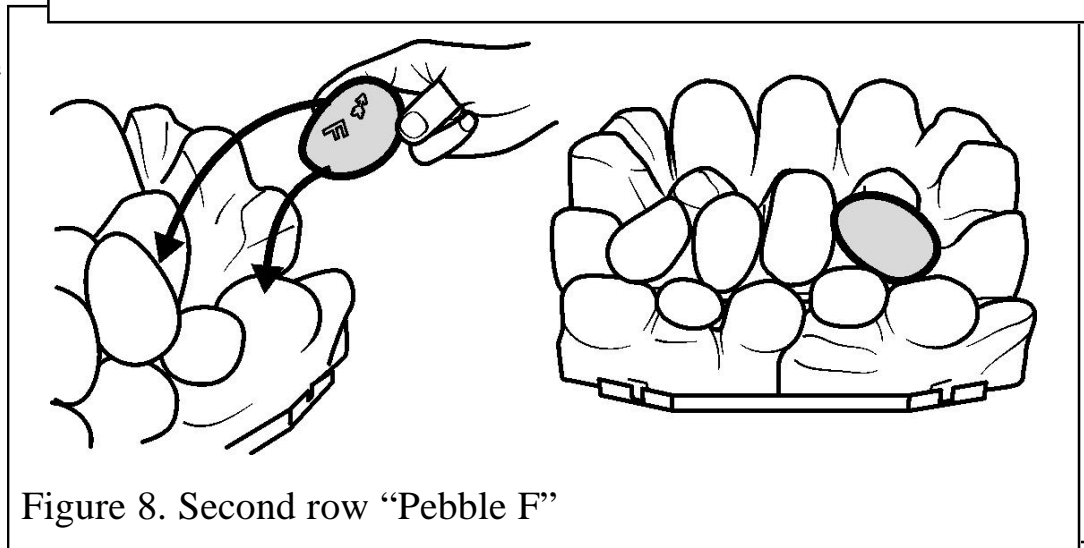

Figure 8. Second row "Pebble F"
10. Hold pebble 'F' upright with the arrow pointing to the top. Locate pebble 'F' as shown in figure 8.